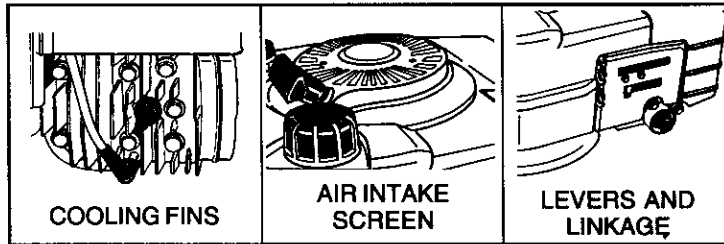

Figure 9
⑤ COOLING SYSTEM (see Figure 9):